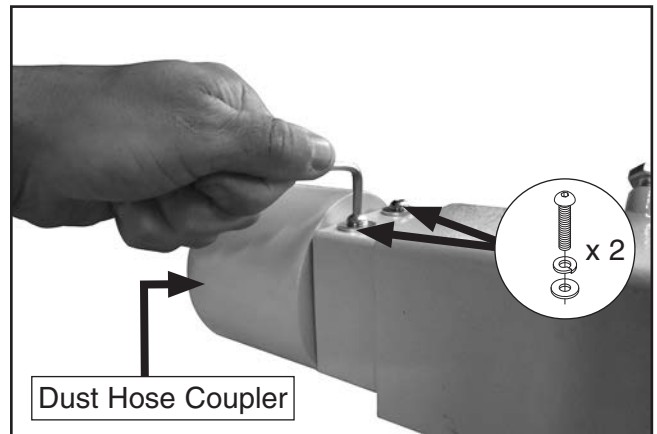

Figure 56. Installing dust hose coupler.
- 56. Install dust hose coupler onto upper support arm, using (2) M6-1 x 12 button head cap screws, (2) 6mm lock washers, and (2) 6mm fender washers (see **Figure 56**).